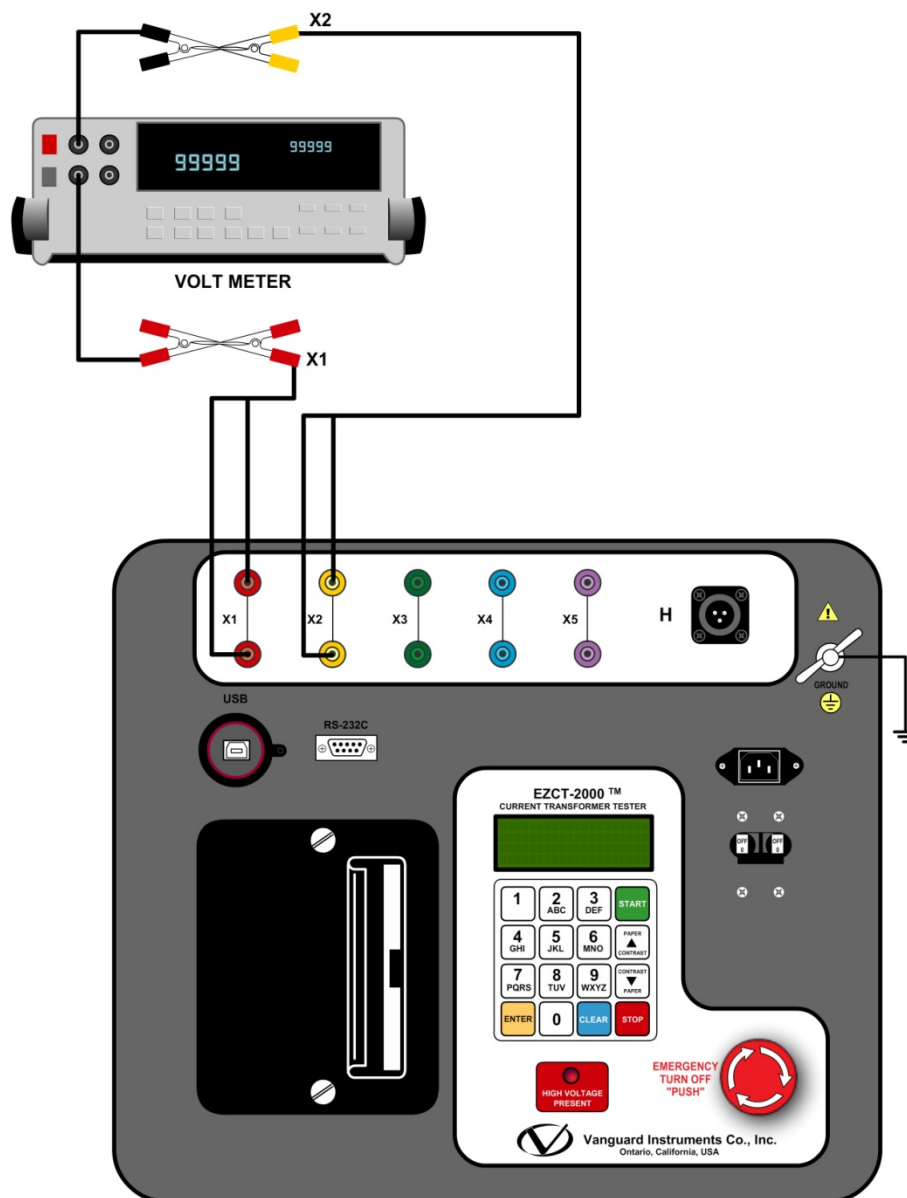

Figure 15. EZCT-2000  $V_x$  Verification Test Connections
- Connect the X cables to an RMS volt meter as shown in Figure 15.